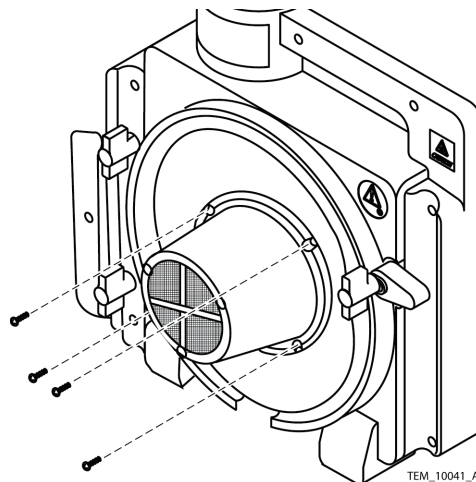

Figure 42. Blower Assembly Screws
3. Remove the screws holding the blower assembly to the rear cover assembly. See Figure 42.